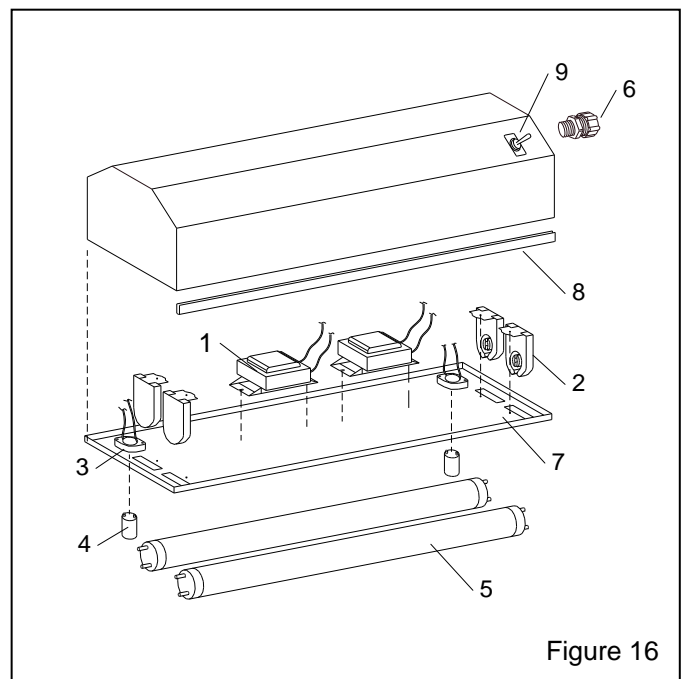

Figure 16
9.6 Light Shield Assembly, Figure 16